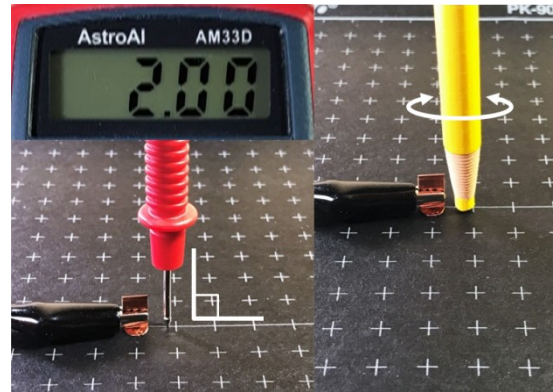

Fig. 18: Check the voltage near the negative conductor to find a point where the voltage is +2.0 V. Mark that location with the yellow china marker.
1. Search with your red probe on the conductive paper near the negative conductor (0V) and find a location where the voltage is +2.0 V (+1.0 V will likely be too close to the tape to find). The probe reads most accurately when pressed straight down onto the paper rather than at an angle. Mark that location with the yellow china marker (see Fig. 18).